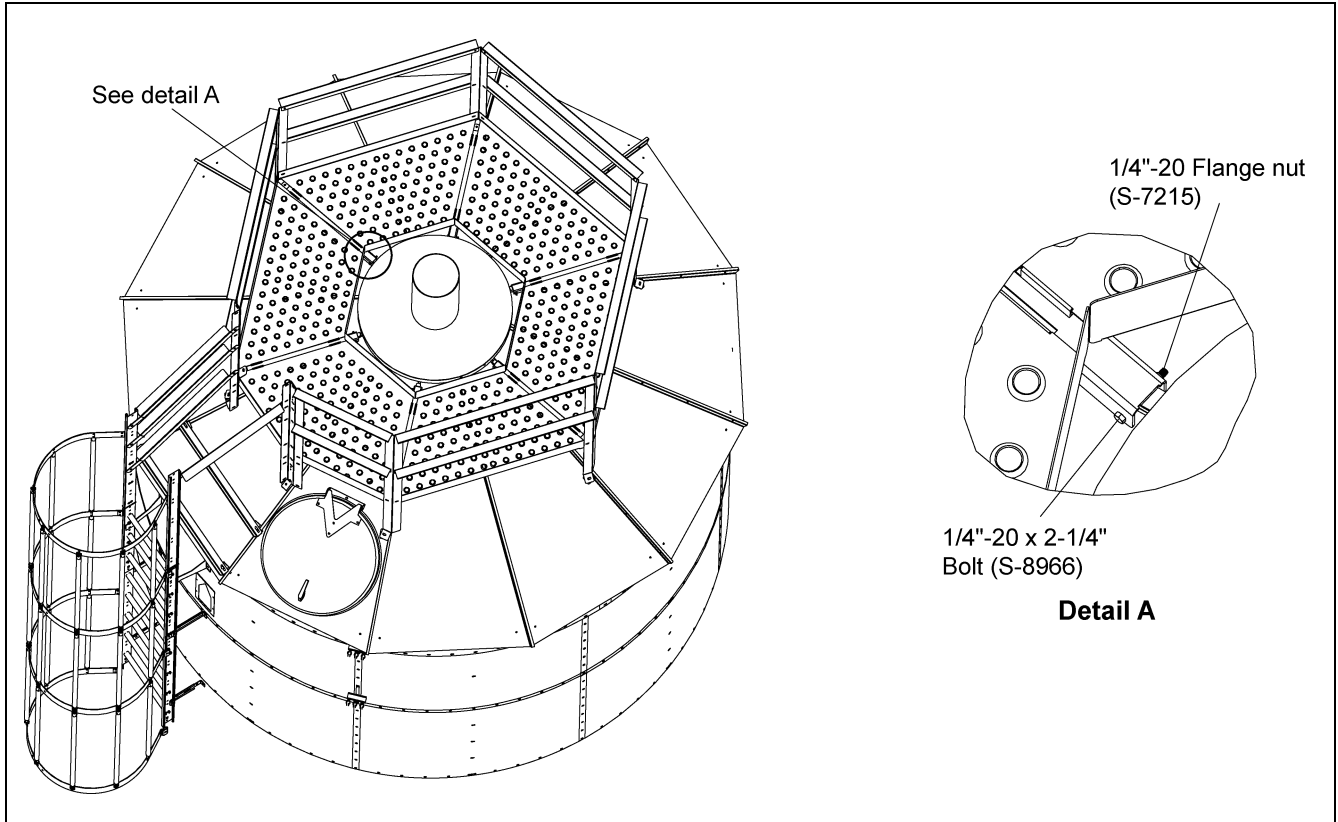

Figure 30
3. Fasten horizontal supports to the roof sheet using 1/4" hardware as shown in *Figure 30*.